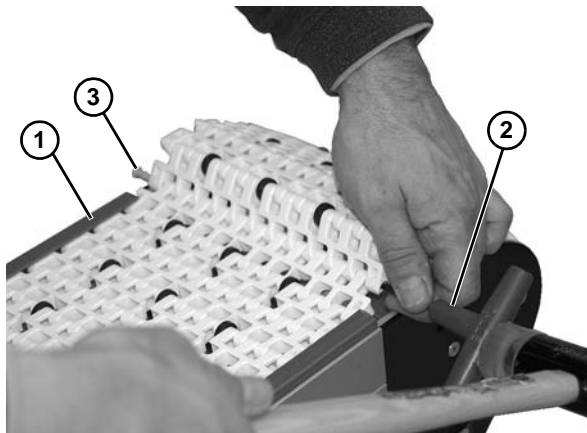

Figure 38
1. Lift belt off of frame at idler end of conveyor past edge strip (**Figure 38, item 1**).
2. Use a punch (**Figure 38, item 2**) and hammer to push the belt rod (**Figure 38, item 3**) out by striking the rod end opposite the retaining head.